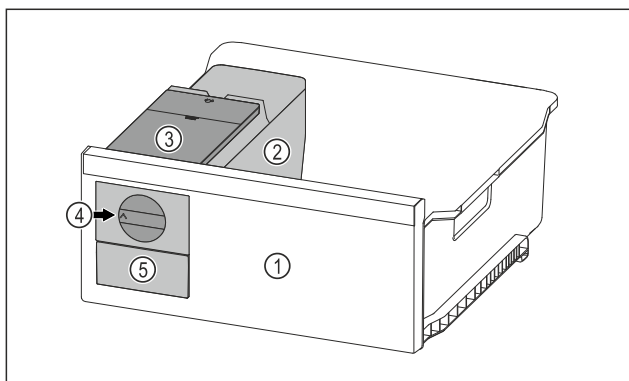

Fig. 66 Example illustration
▶ Turn the rotary knob Fig. 66 (4) clockwise as far as it will go.
▷ Ice cubes fall from the ice cube tray into the ice cube drawer Fig. 66 (5).